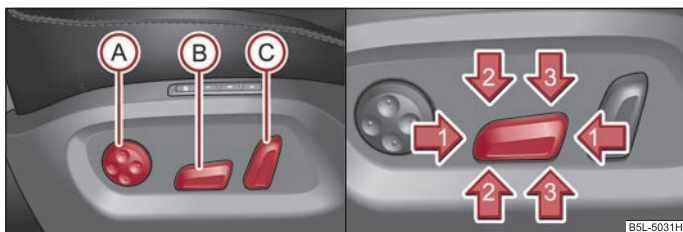

Fig. 58 Side view: Controls for adjusting the seat/seat setting switch
- Press the switch **(B)** ⇒ fig. 58 forwards or backwards in the direction of arrow **(1)**.